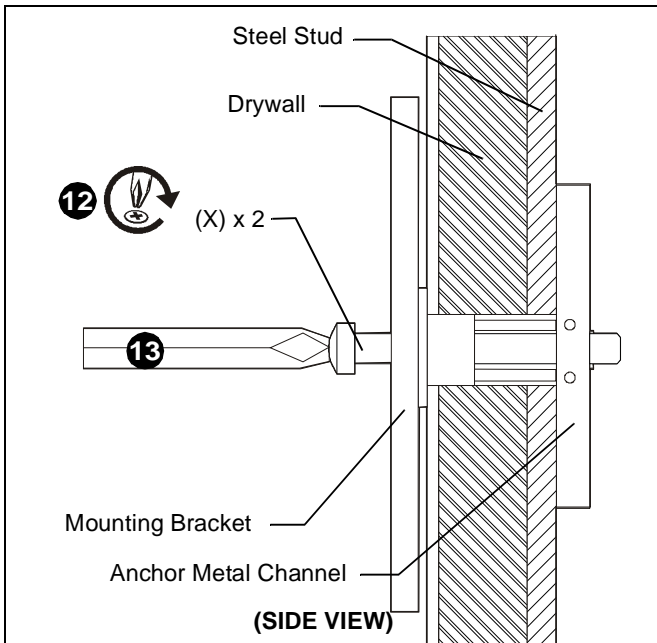

Figure 12
1. Place mounting bracket over anchors and align mounting holes in display mount with holes in anchors. (See Figure 12)
2. Insert 1/4-20 x 1-3/4" Phillips pan head screw (X) into mounting hole on mounting bracket and into anchor (K) and tighten until flush against mounting bracket. DO NOT overtighten! (See Figure 12)